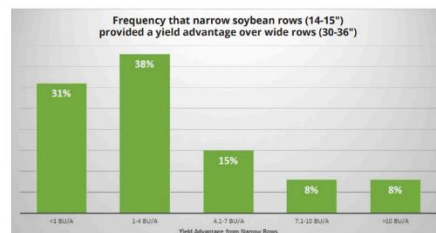

FIGURE 1. Frequency of soybean yield advantages from narrow rows (14-15 inch) versus wide rows (30-36 inch) across 84 US small-plot row spacing trials.
- **Data:** Soybeans in 15-inch or narrower rows usually yield more than soybeans in 30-inch rows, and seldom yield less. Yield advantages for narrow rows typically range from about 1 to 4 bu/A (Figure 1). Yield advantages from narrow rows are typically more pronounced in the South when soybeans are planted later in double crop situations (Figure 2).